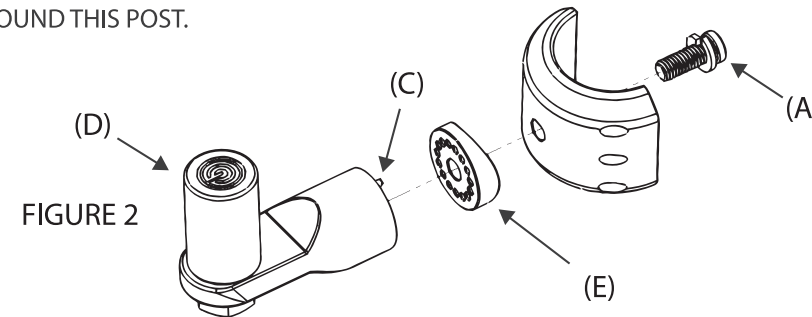

FIGURE 2
NOTICE THE MULTIPLE PIN HOLES IN THE SPACER (FIGURE 1). ALIGNING THE PIN (C) WITH ONE OF THESE HOLES WILL HOLD IT IN A FIXED POSITION. THE SPACER (E) HAS A HALF ROUND SIDE THAT NESTS WITH YOUR TUBE CLAMP AS SHOWN IN (FIGURE 2). YOU CAN TEMPORARILY ASSEMBLE (FIGURE 2) AND HOLD THE CLAMP HALF UP TO YOUR ROLL CAGE TO HELP FIND A SUITABLE MOUNTING LOCATION. THE RUBBER SPACER IS USED FOR THE SMALLER CAGE DIAMETER 1.75" AND ARE PLACED BETWEEN THE CAGE TUBE AND CLAMP. VERTICAL ADJUSTMENT IS ACHIEVED BY MOUNTING IT HIGHER OR LOWER ON THE ROLL CAGE AND MOUNT ARM ROTATION IS ACHIEVED BY USING DIFFERENT PIN HOLE POSITIONS. FIND A SUITABLE POSITION FOR YOUR DATA COLLECTOR AND MARK THE POSITION ON THE CAGE. REMOVE FROM THE CAGE AND THEN TIGHTEN & TORQUE BOLT (A) TO (21FT-LBS).
**NOTE:** YOUR DATA COLLECTOR POLE CLAMP WILL MOUNT AROUND POST (D). YOU CAN ALSO ADJUST THIS POSITION BY ROTATING THE CLAMP AROUND THIS POST.